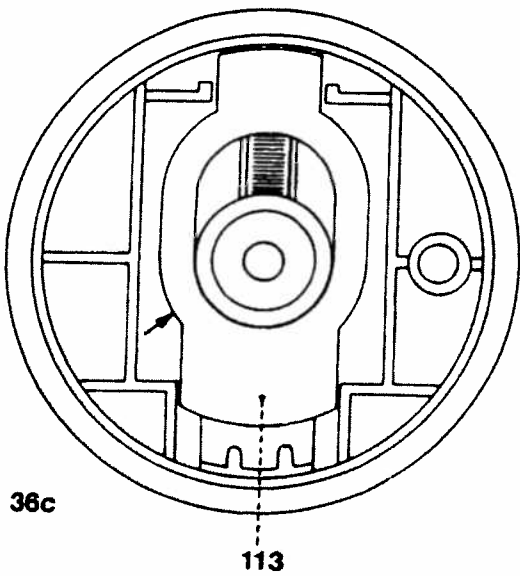

Fig. 36c
- First place clutch piece 113 onto the handwheel boss, then press it towards the back. The pressure spring is thus placed vertical and the clutch piece is positioned as shown in fig. 36c.